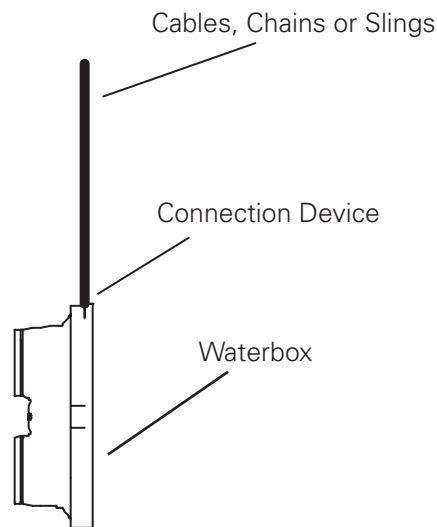

Figure 43 Water Box Lifting
4. Properly connect the lift connection device to the waterbox. Refer to Figure 43. Insure lift connection device is securely fastened.